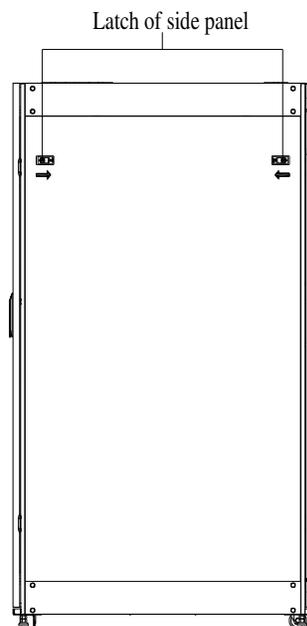

Figure 3-7 Side Panel Mounting
2. Toggle the latch in the direction of the arrow as shown in Figure 3-7, push the top of the side panel forward until the latch on both sides is stuck in the square hole of the frame, then release the latch, the side panel is now installed.